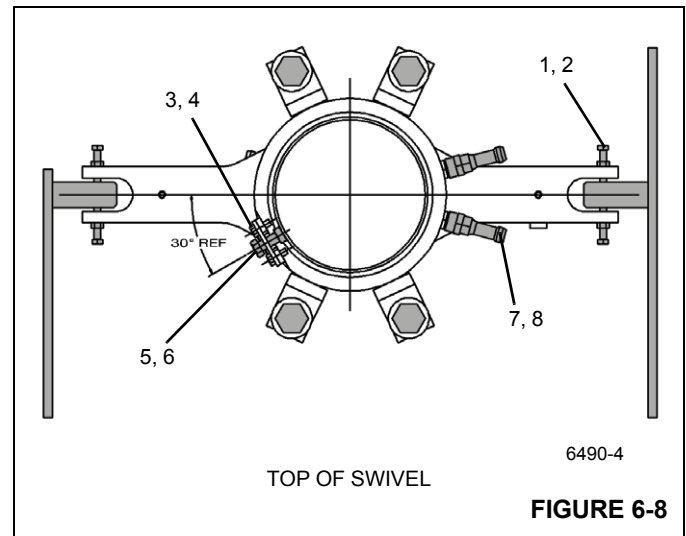

FIGURE 6-8
3. Ensure the threaded hole on the bottom of the electrical swivel base is aligned with the mounting hole in the plate on the water swivel case. Install the capscrew through the hole in the plate and install the jam nut. Screw the capscrew into the hole in the electrical swivel base until the capscrew head is approximately 0.23 in (6.0 mm) from the bracket. Tighten the nut against the electrical swivel (Figure 6-8).